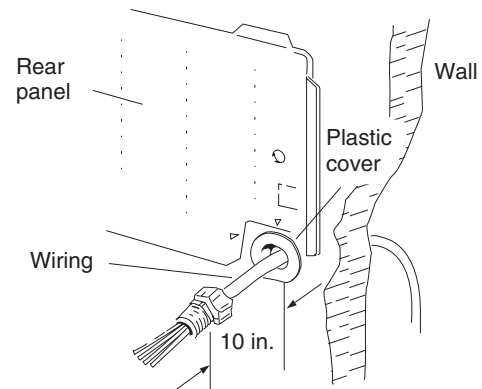

Fig. 1-77
- (1) Insert the inter-unit wiring (according to local electrical codes) into the through-the-wall PVC pipe. Run the wiring toward the indoor side allowing approx. 10 inches to extend from the wall face. (Fig. 1-77)